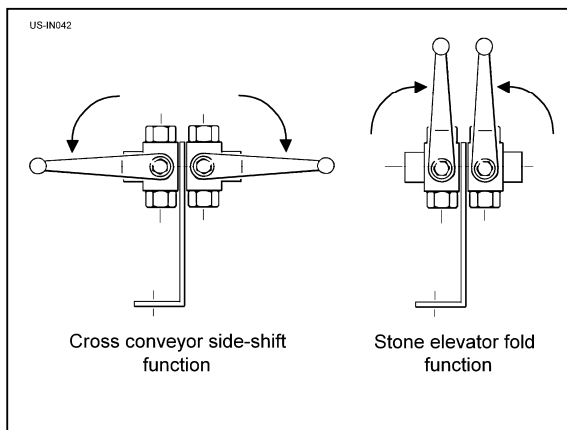
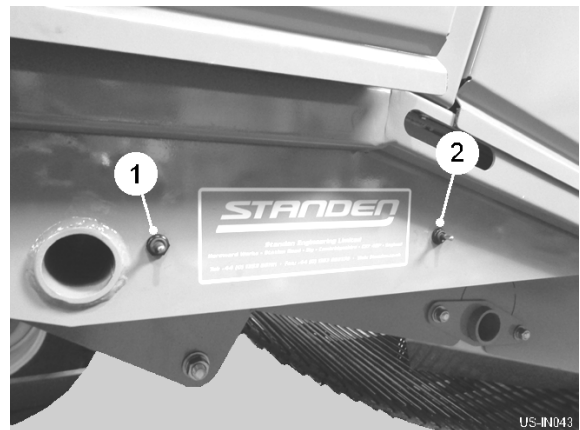

Fig 18
Fig 19
The stone elevator function is selected by resetting the two manual valves (see fig 18) behind the 3rd LH guard door. Raising / lowering of the conveyor is controlled by the two external switches (item 1 & 2, fig 19) on the RH side of the machine.
To unfold the stone elevator, set the valve handles as shown (see fig 18).
Reset the valve handles to 'cross conveyor function' (see fig 18). Using the switches (item 1 & 2, fig 19), carefully move the cross conveyor sideways to close the gap between the conveyor and the stone elevator flights. Ensure the flights do not come into contact with the cross conveyor web when running.
Finally, reset the valve handles to 'stone elevator function' (see fig 18) to prevent inadvertently side-shifting the cross conveyor into the elevator during work.